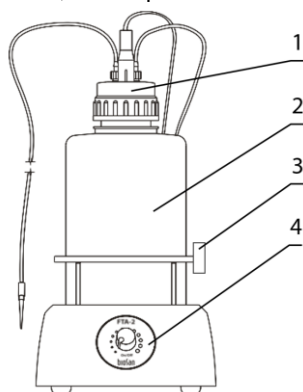
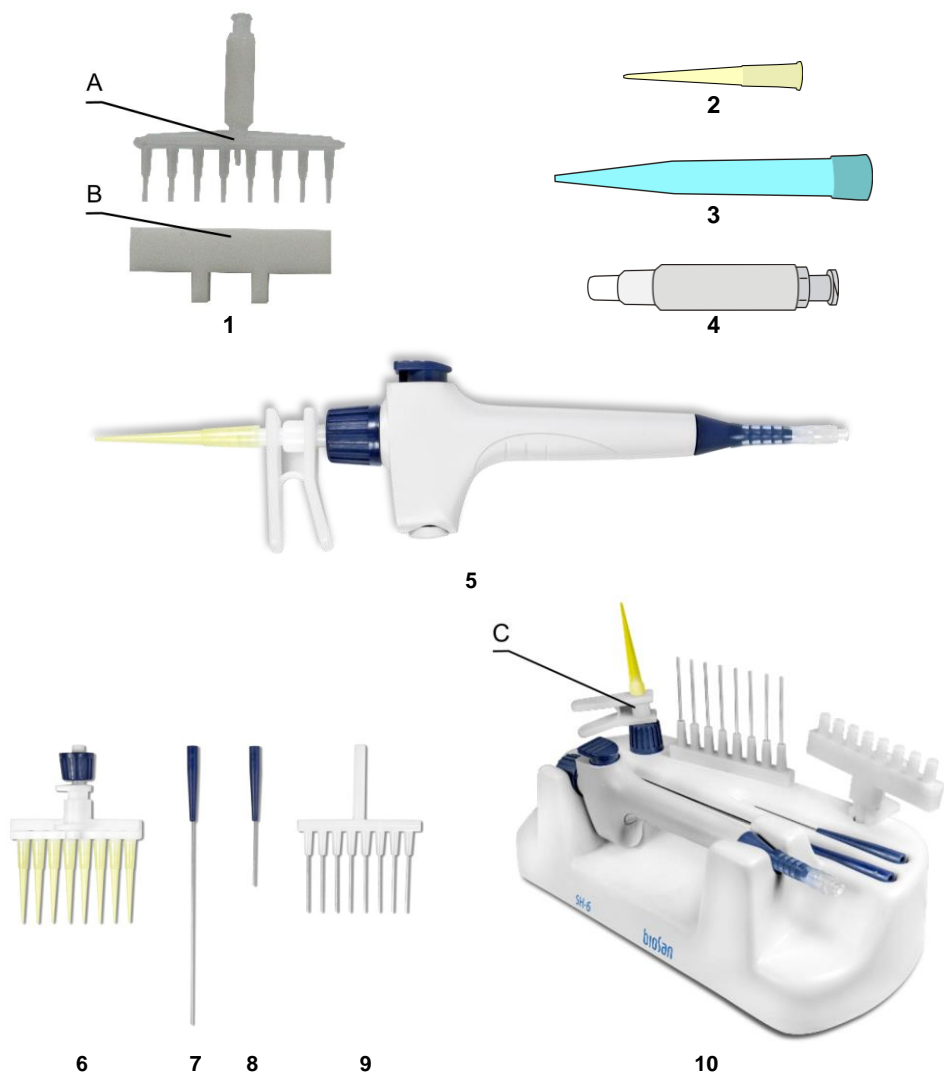

Figure 3. FTA-2i front view.
Figure 8. Optional accessories and replacement parts
- Install the trapping flask (fig. 3/2) on the unit.
- Screw on the lid with the sensor needles and valves for tubing (fig. 3/1) to trapping flask.
- Place the microtubes for aspiration tip into the holder (fig. 3/3).
4.4.1 **Optional MA-8 aspiration tip installation.** Remove microtubes and aspiration tip from the holder (fig. 3/3). Remove the aspiration tip (fig. 5/1) from the **MA-U** adapter and connect the **MA-8** aspiration tip (fig. 8/1A).
4.4.2 **Optional HAS-1 hand operator installation.** Unscrew the **MA-U** adapter from the aspiration tube (fig. 5/3) and connect the **HAS-1** hand operator (fig. 8/5) by screwing it to the fitting.
- 5.3 (For model **FTA-2i**) Regulate the aspiration intensity with the regulator knob on the front panel of the unit (fig. 3/4). Clockwise turning direction increases power, counter clockwise – decreases. Current intensity is indicated by a light ring around the regulator knob.
MA-8 , 8-channel aspiration tip (fig. 8/1A) with holder (fig. 8/1B)	BS-040108-BK
HAS-1 , hand operator set (only for FTA-2i). Set includes: Handheld vacuum controller with adapter (fig. 8/5), 8-channel adapter (with ejector) for 200 µL tips (fig. 8/6), 1-channel adapter with 125 mm stainless steel pin (fig. 8/7), 1-channel adapter with 40 mm stainless steel pin (fig. 8/8), 8-channel adapter with 35 mm stainless steel pin (fig. 8/9), 1-channel adapter (with ejector) for 200 µL tips (fig. 8/10C), Stand SH-6 for hand operator parts (fig. 8/10)	BS-040118-PK
Aspiration tip, 200 µL, 1000 pcs. (fig. 8/2)	BS-000001-S04
Aspiration tip, 8 channels, for MA-8 (fig. 8/1A)	BS-040108-S24
MA-U , universal adapter for 200/1000 µL single use tips (fig. 8/4)	BS-040118-AK
Aspiration tip, 1000 µL, 1000 pcs. (fig. 8/3)	BS-000001-S05